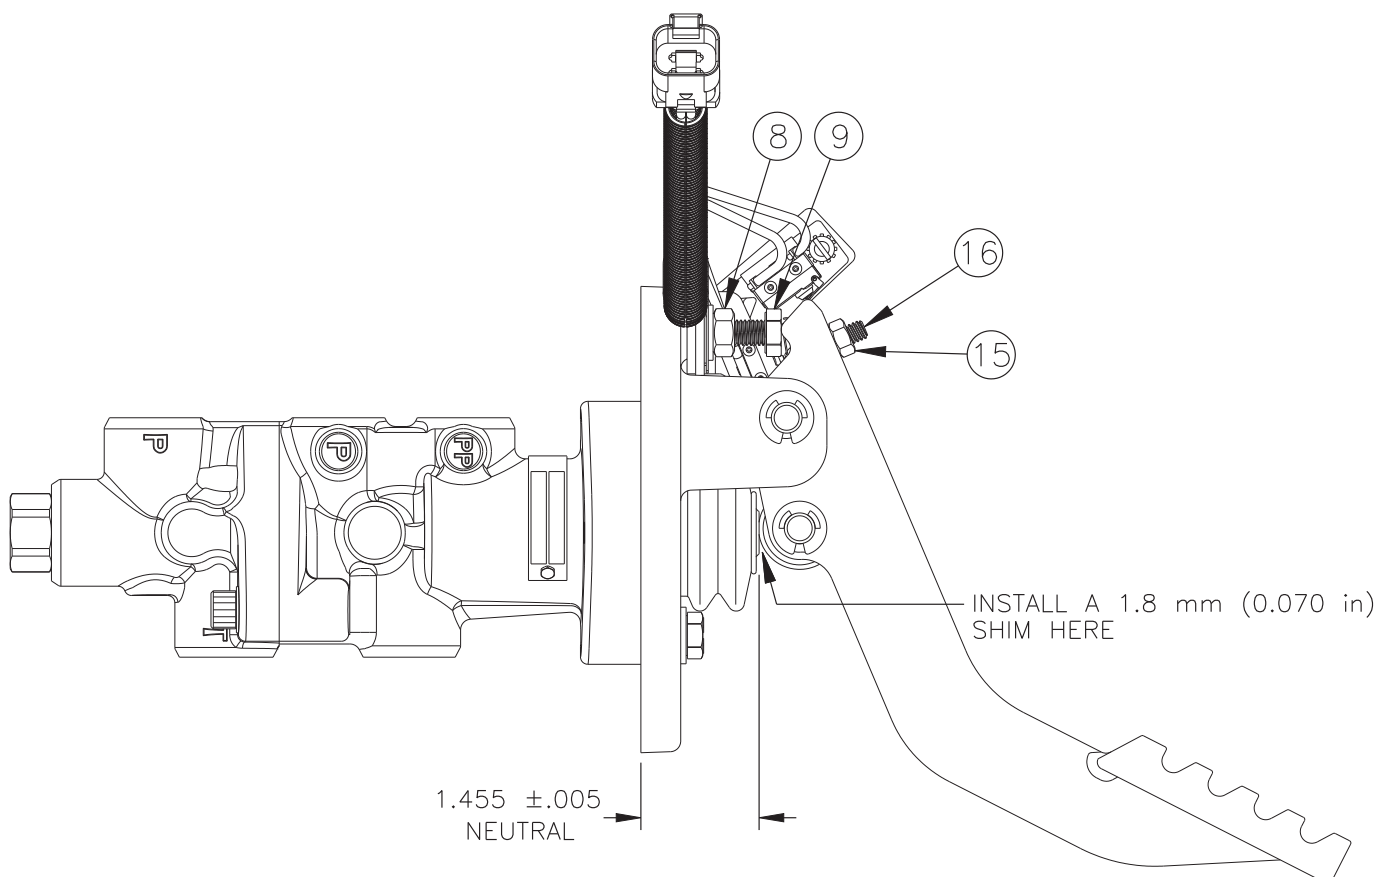

FIGURE 3
2. New plunger (16) needs to be adjusted for new switch "A". Install a 1.8 mm (0.070 in) shim between the pedal roller and input piston, see Figure 3 on page 4. Fully depress the pedal and hold it in this position. With the pedal fully depressed, use a hex key wrench to screw plunger (16) out of the back of the pedal until the plunger (16) tip contacts and clicks the snap switch. Slightly back off plunger (16) to the point where the snap switch again releases.